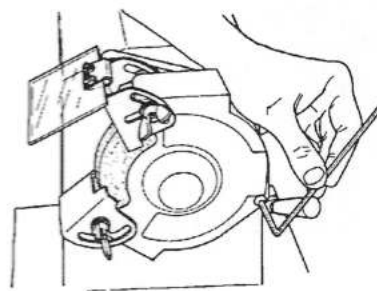

Fig. 31
3. Use a 5/32" Allen wrench to remove the cap screw (23) which attaches the cover to the guard. See Fig. 31.